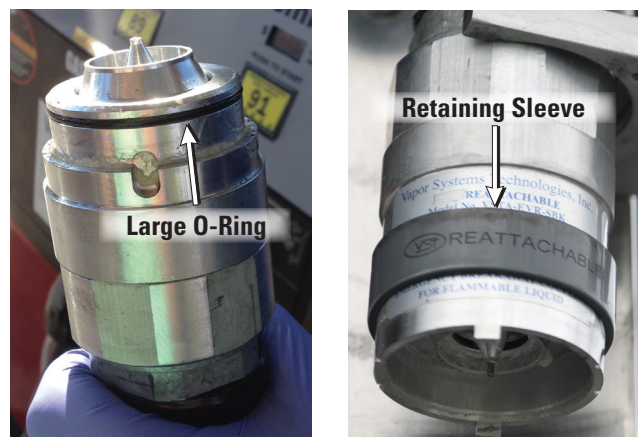

Figure 2: Check each half for damage
2. Inspect both safety breakaway halves for damage that may have occurred during separation. Include looking for external damage to the product and missing alignment pin, etc. See **Figures 2 and 3. If damage or missing parts are detected, replace with new product.** Ensure that the retaining sleeve is placed on the breakaway half connected to the whip hose before reassembly.